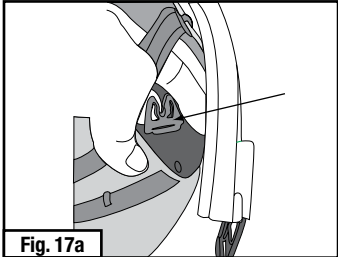
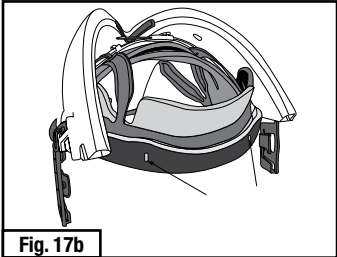

Fig. 17a
Fig. 17b
2. Secure the S-954 Size Reducing Comfort Pad to the suspension according to Fig. 17a-d. The two long slots in the size reducing comfort pad hook over the large top hooks on the premium head suspension marked with an arrow in Fig. 17a. Use the smaller hooks on the suspension to fully secure the pad as shown (Fig. 17b-17d).